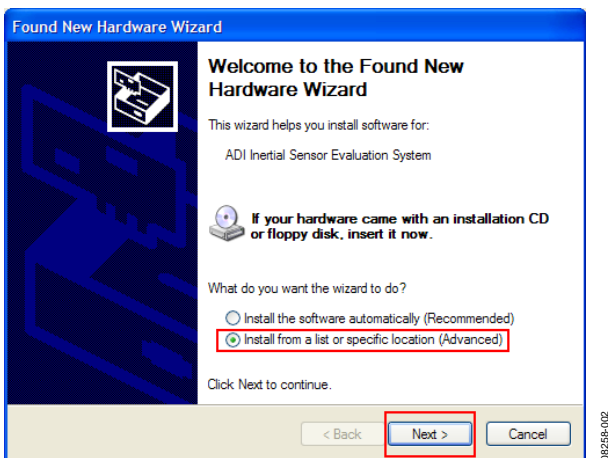

Figure 2. Found New Hardware Prompt
2. If prompted to install drivers again, click **Install from a list or specific location (Advanced)** (see Figure 2).